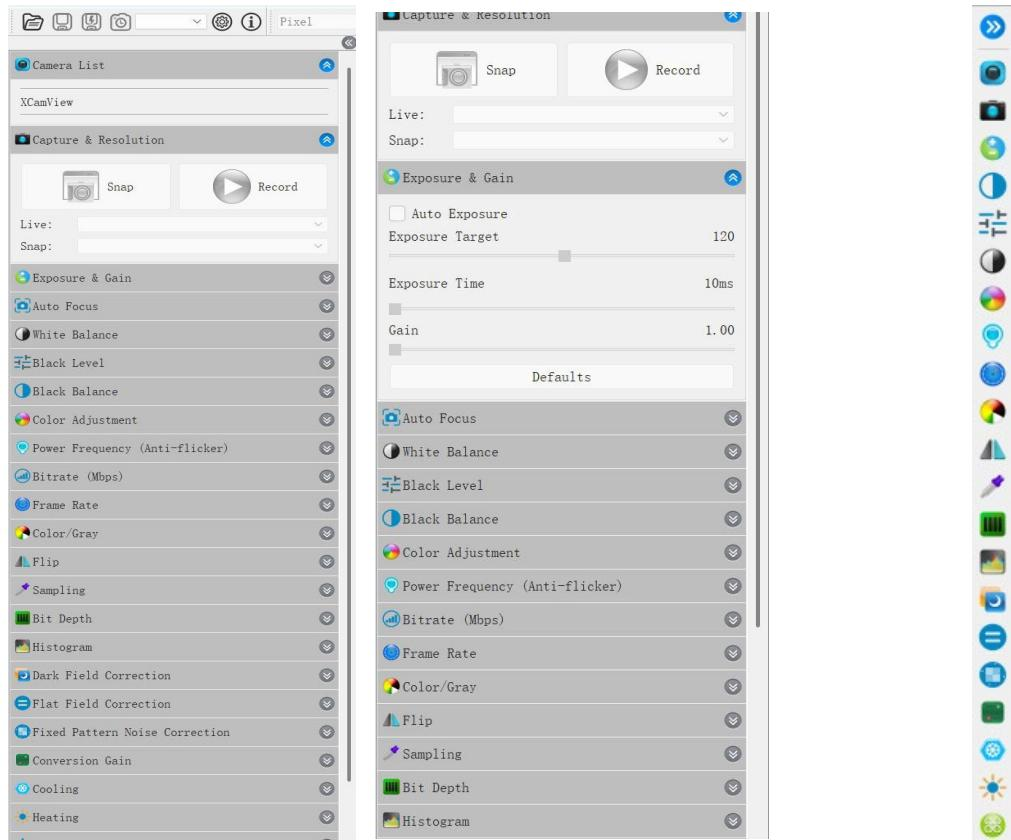

Figure 3-3 Layout Diagram of Docking Window/tools Bar on ALTRAview LITE Control Panel
The ALTRAview LITE control panel is positioned on the left side of the main interface, as shown in Figure 3-3. It features two layout modes switchable via the arrow button (red box) at the top: (1) Docked Windows and (2) Toolbar. In Docked Windows mode, a list of all control panels is displayed, allowing users to hide or expand them by clicking their titles (two left images). In Toolbar mode, only control panel icons are shown, with users clicking an icon to reveal its corresponding panel (right image).